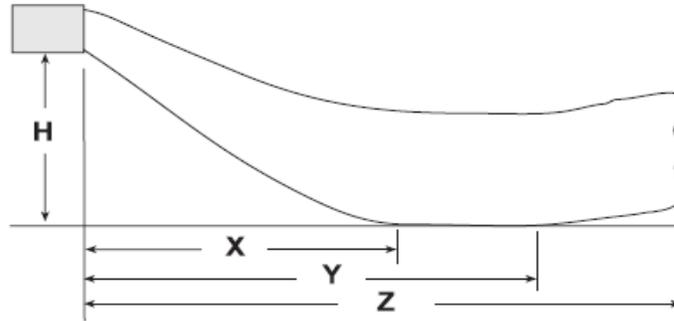

Figure 1. Heater Throw Patterns (Refer to Table 2)
Figure 1 shows throw patterns and Table 2 lists throw distances for heaters suspended at varying mounting heights.
*See Figure 1.